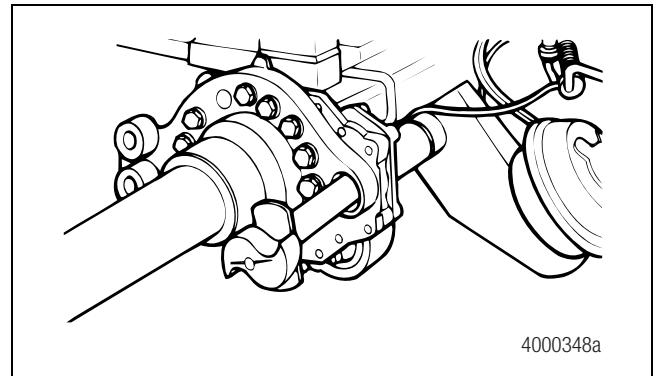

Figure 5.20
- 5. Place the cam head thrust washer onto the camshaft. Apply the appropriate Meritor-approved grease to the camshaft bushings, camshaft journals and camshaft seal lips. Refer to Section 11. Install the camshaft assembly through the spider and bracket. The camshaft should turn freely by hand. Figure 5.20.